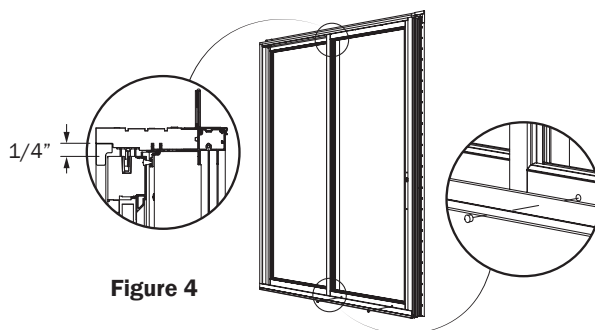

Figure 4
3. To adjust the panel, the rollers can be accessed using the holes on the face of the bottom rail. Each roller can be adjusted separately using a phillips head screwdriver. Turning clockwise raises the panel and counter clockwise lowers the panel. Adjust until panel glides smoothly on the track and panel is plumb and level with the head. Top of panel should be approximately 1/4" from the head (Figure 4).